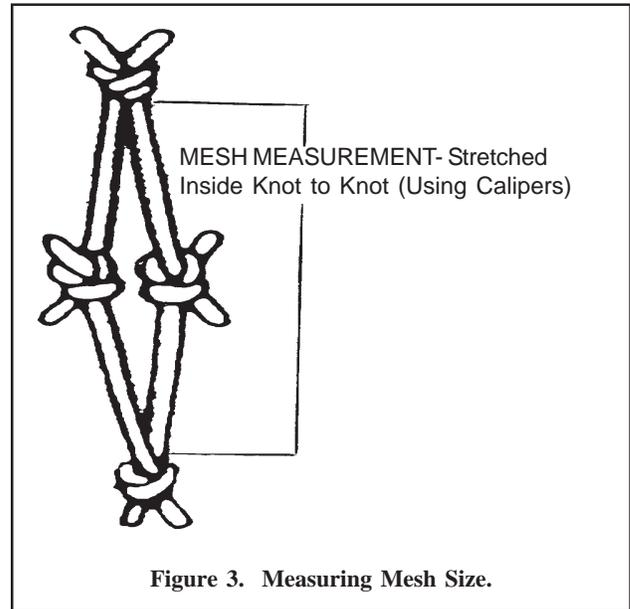

Figure 3. Measuring Mesh Size.
NOTE: The surface system refers to the configuration of high flyers and buoys at the surface of the water. See Figure 3.
55. NUMBER: Record the **total** number of surface system weak links used on this gear. This information may be obtained from the Captain. See Figure 3.